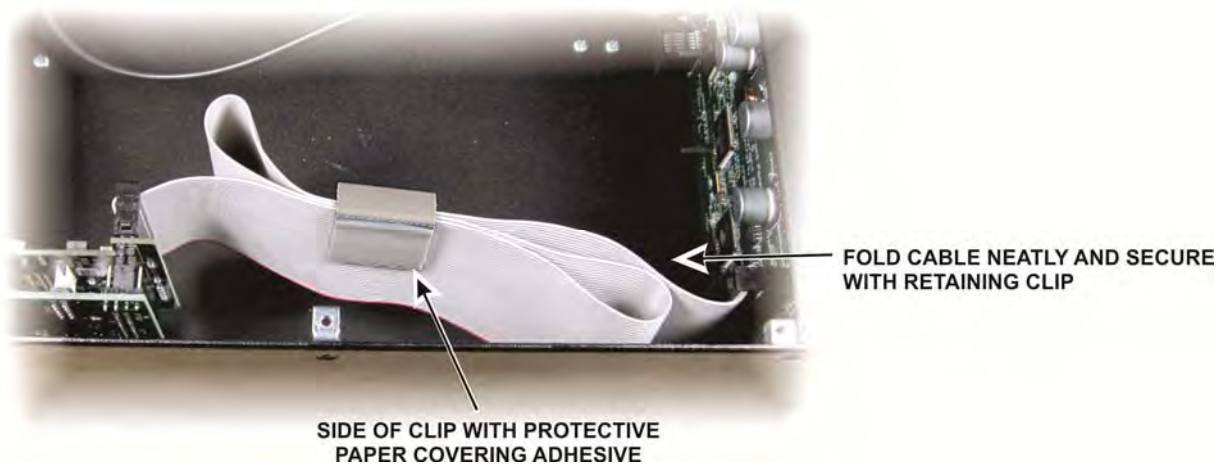

Figure 21. Placing Clip on the Ribbon Cable.
- Gather the ribbon cable into neat folds and place the clip on the cable to hold it in place as shown in Figure 21. The clip has ridges to grip the cable tightly. Use gentle folds. Avoid creasing the cable.